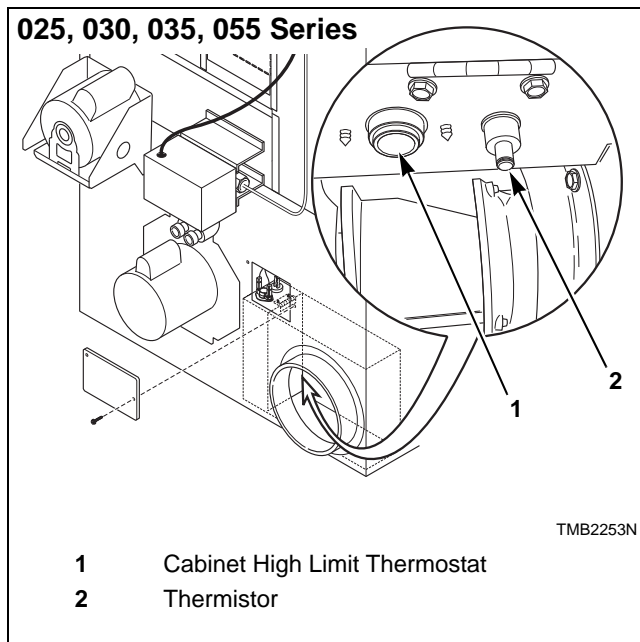

Figure 58
- e. Wipe lint off of the cabinet high limit thermostat and thermistor. Refer to *Figure 58*.